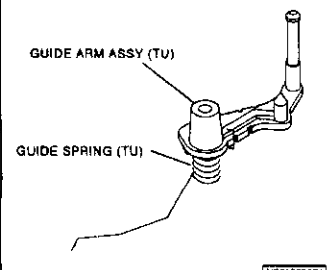

Fig. 2-13-3
- 4 Fix the GUIDE SPRING (TU) to the GUIDE ARM ASSY (TU) as shown in Fig. 2-13-3.